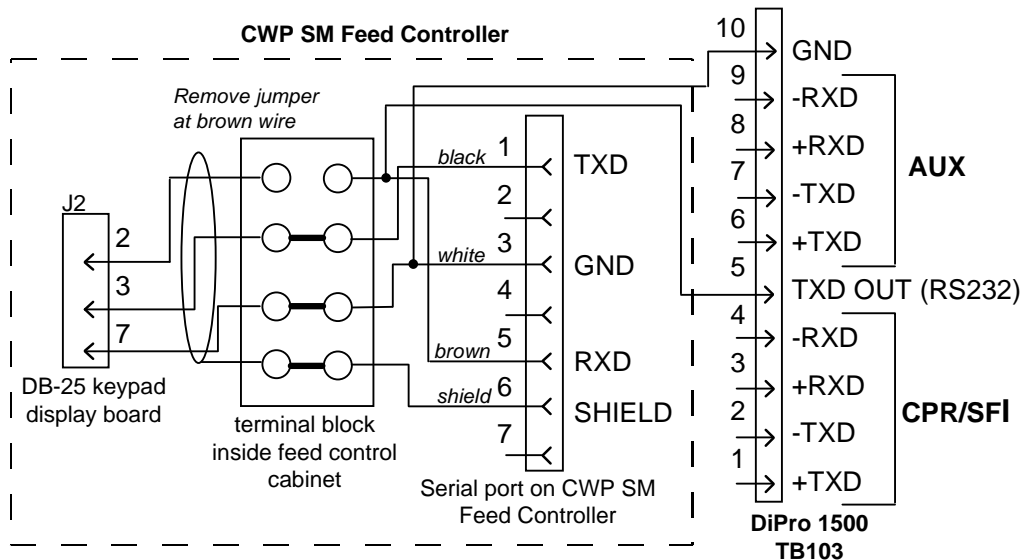

Figure 2-3. CWP SM wiring connections
1. *Verify that DiPro 1500 and your feed are still turned OFF!* You are now ready to connect your servo feed to DiPro 1500. Find the 10-pin phoenix connector and the black round cable with a large connector (DB25 connector) on one end. The other end of the cable has three unattached wires (red, black, and shield). Check to make sure that you have the right connector for your feed—either male or female as shown in Figure 2-3, and tables at Table 2-1.
7. You will be connecting the two wires (with shield) to the 10-pin phoenix connector which you will attach to terminal TB103 on the DiPro 1500 processor board. The wiring connection will depend upon your feed model. Refer to Figure 2-3, and tables at Table 2-1 for your feed's RS-232 configuration.
9. Repeat step 8 when connecting the other two wires. Make sure you add the jumper between terminals 3 and 10 on DiPro 1500 TB103 as shown Figure 2-3, and tables at Table 2-1.